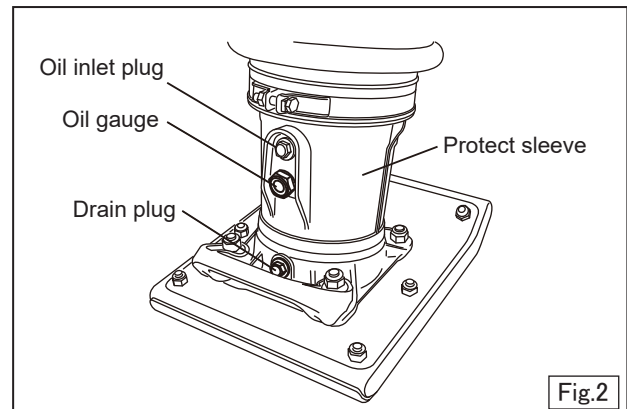

Fig.2
4. Place the machine on a level surface, and visually check at the oil gauge on the protect sleeve from horizontal direction, if the oil is at the specified level. (Fig.2)